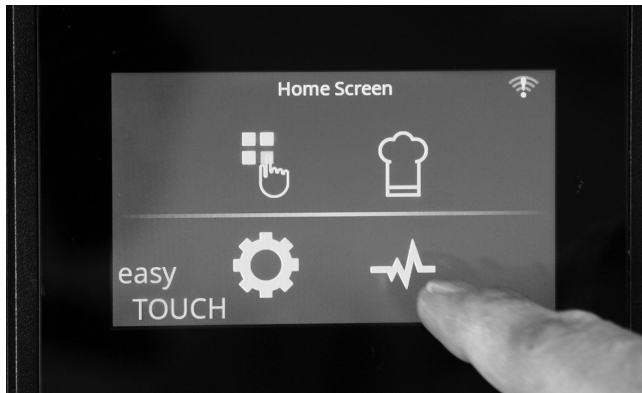

Figure 22
1. Press the Diagnostics button on the Home screen to access this mode. (Figure 22)